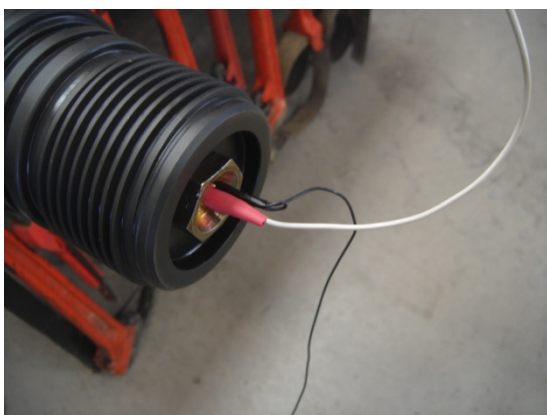
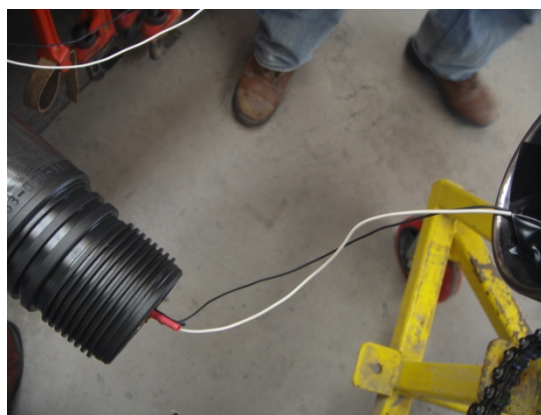

Figure 45
Figure 46
- **Connecting a tandem sub to the gun below:** Connect the live wire from the top end of the gun below to the pin on the bottom of the tandem sub (Refer to Appendix A1 for instructions on attaching wire to EBS pin sub). Connect the ground wire coming from the top end of the gun below to the ground wire from the retainer nut body on the bottom of the tandem sub. Figure 45 and Figure 46